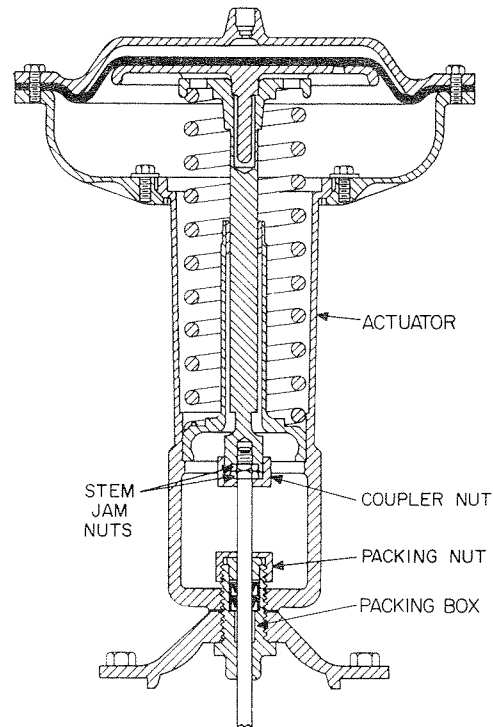

Fig. 4.12: Encapsulated Spring Valve Actuator
Removing Old Packing (See Fig. 4.12)
10. Replace the actuator, the packing nut, and the coupler nut (see Fig. 4.12).